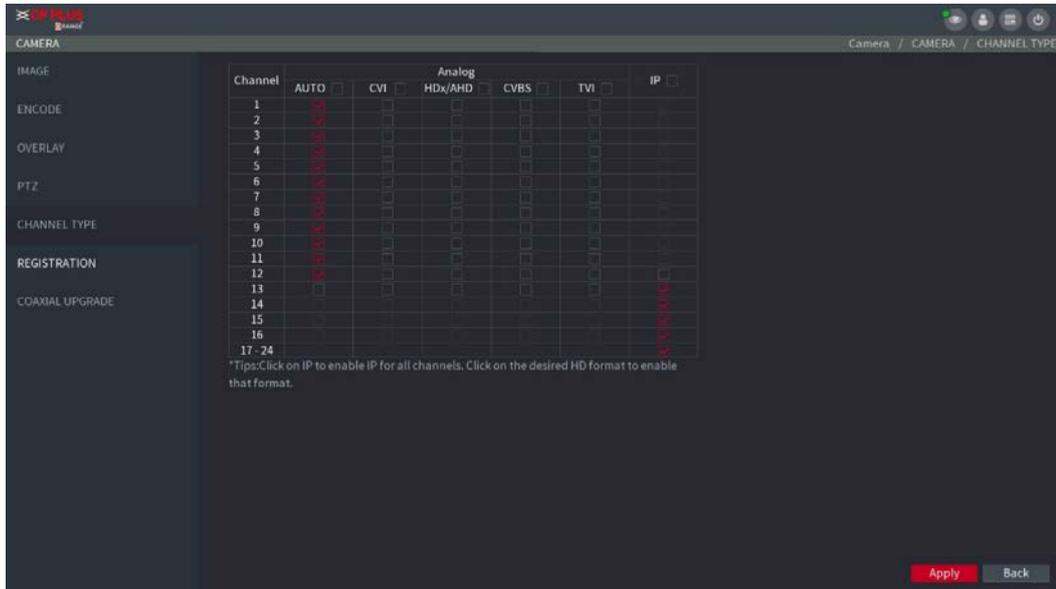

Figure 5-65
The **CHANNEL TYPE** interface is displayed. See Figure 5-65.
- IP Channel: Select a channel for IP camera from the last channel number, for example, in Figure 5-65, select from the **17–24** check box. Then follow the onscreen instructions to complete the settings.